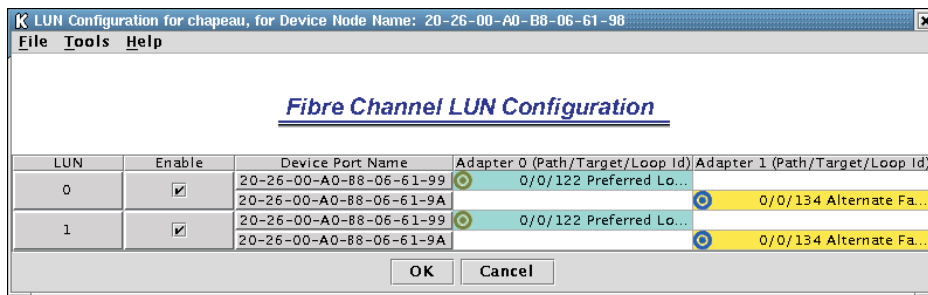

Figure 54. Fibre Channel LUN Configuration window
7. Click **Configure LUNs**. The LUN Configuration window opens (see Figure 54).